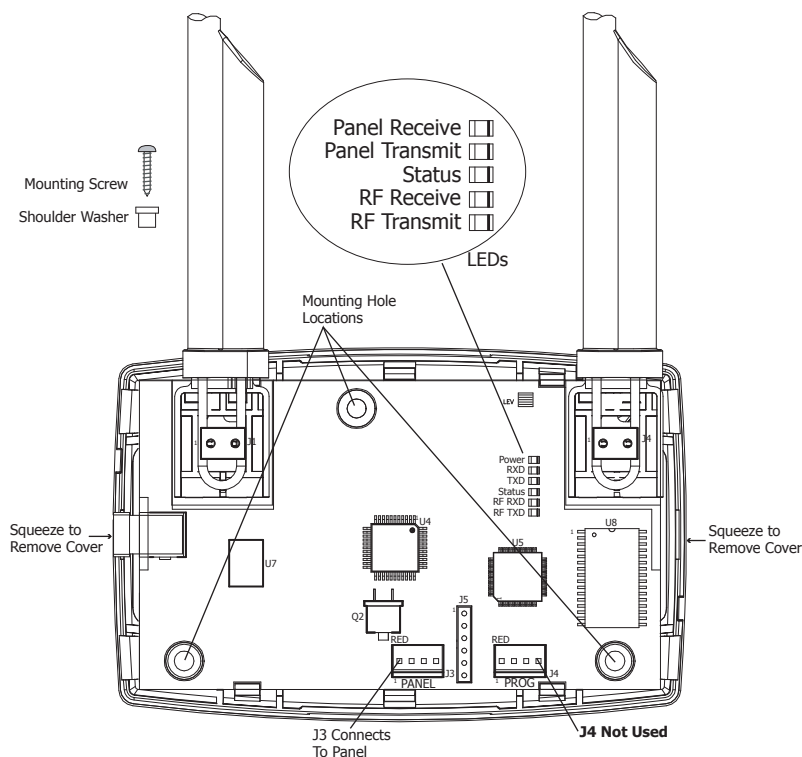

Figure 1: Receiver PCB
2. Secure the receiver to the wall in the desired location installing the supplied shoulder washers and screws in the mounting hole locations as shown in Figure 1.